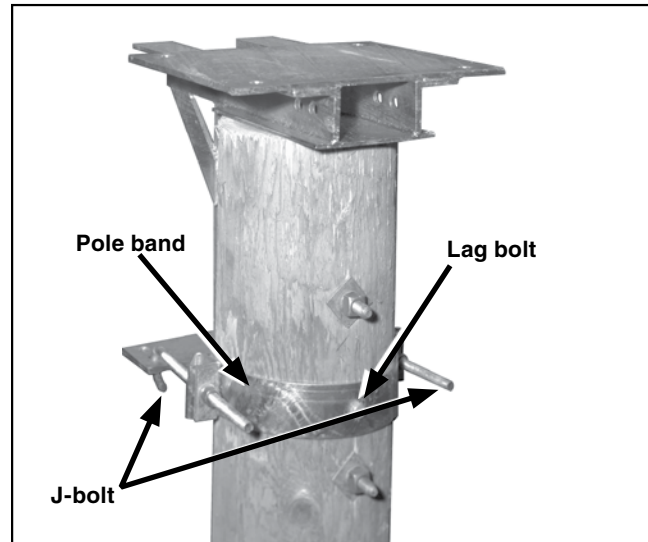

Figure 12. Attach pole band.
STEP 9. Attach the pole band to the switch-mounting bracket using the J-bolts furnished. Use a stiffening block under each nut. See Figure 12.